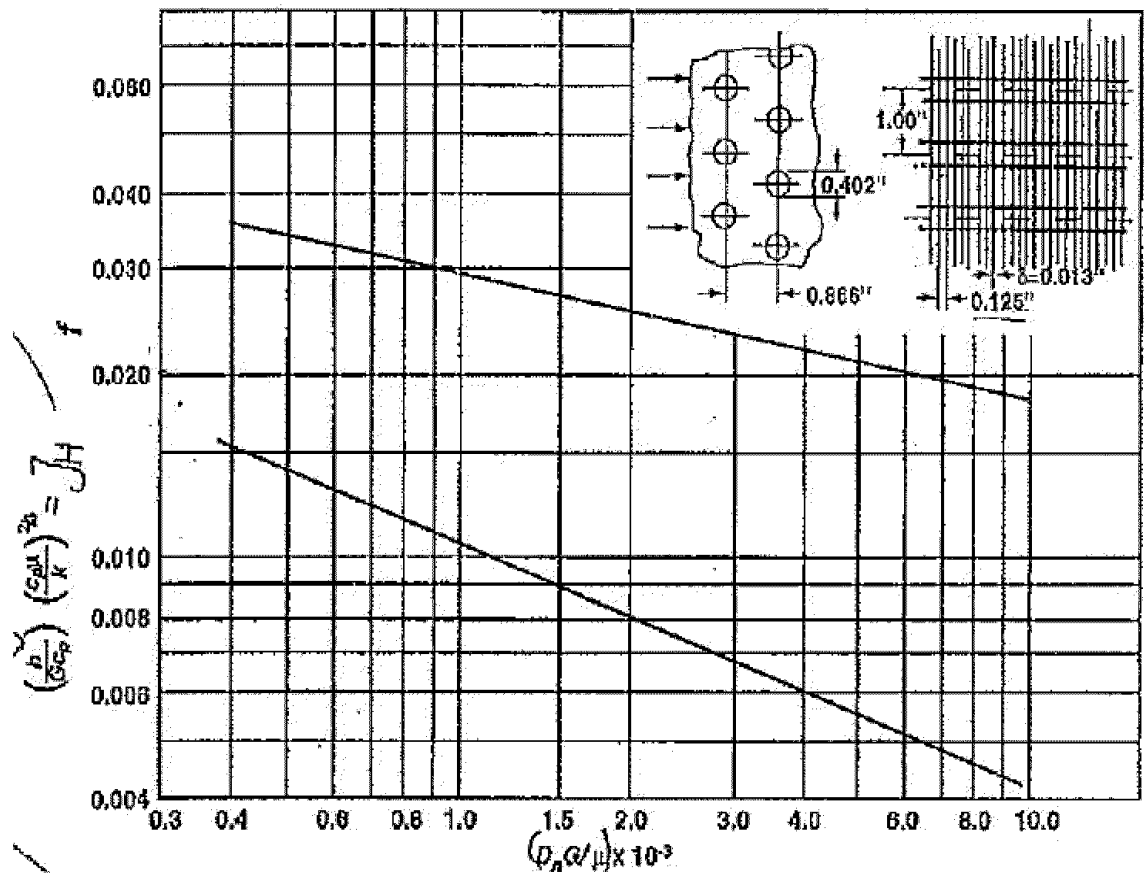

Figure: 1
- Q.5 (a)** Air at 1 atm and 400 K and with a velocity of $u_{\infty} = 10$ m/s flows across a compact heat exchanger matrix having $\sigma = (A_{min}/A_{fr}) = 0.534$ and Hydraulic diameter (D_h) = 0.3633 cm. Calculate the heat transfer coefficient, h and frictional pressure drop for air side. The length of matrix is 0.6 m. Use following properties $\rho = 0.8825$ kg/m³, $\mu = 2.29 \times 10^{-5}$ Kg/ms, $C_p = 1013$ J/kgK, $Pr = 0.719$. Use Figure. 1 for extra data. **07**